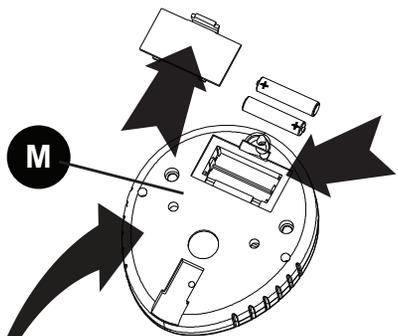

FIGURE 13
Step 13: Remove the battery cover located on the back of the Meter (M) (1906). Install the included two AAA batteries, then replace the cover. **Figure 13**